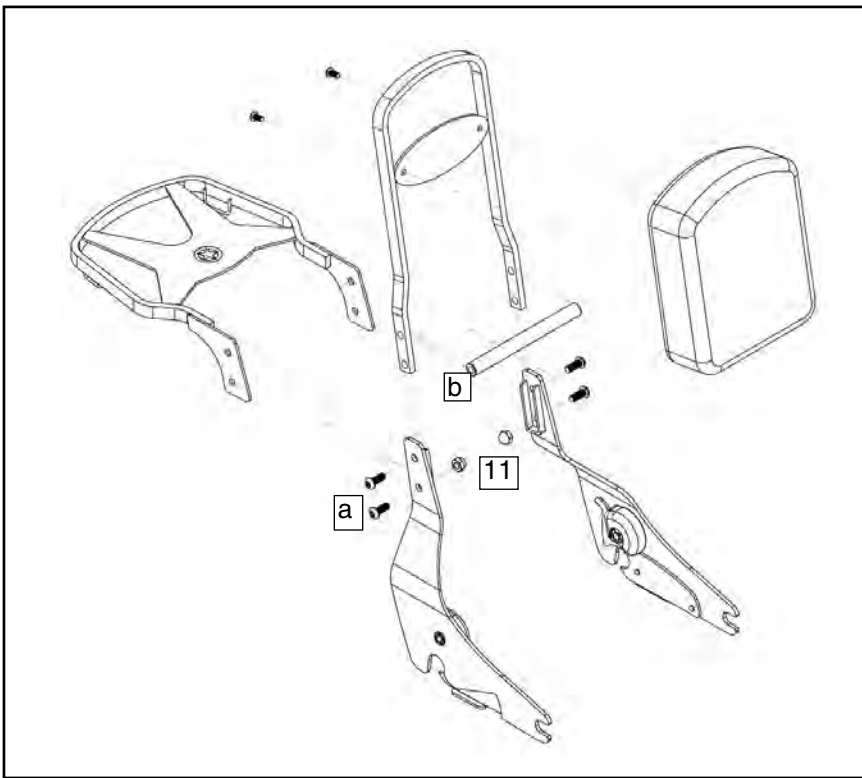

Figure 3
1. Assemble side plates (1) and (2) to the Paladin backrest alone or with the Paladin luggage rack. **(5mm Hex Wrench) Figure 3**
2. Use items (a) button head screw and (b) support stay (provided with the backrest kit) and item (11) cap nut (provided in this kit) to complete assembly of the side plates. **(5mm Wrench and 13mm Box Wrench) Figure 3.**